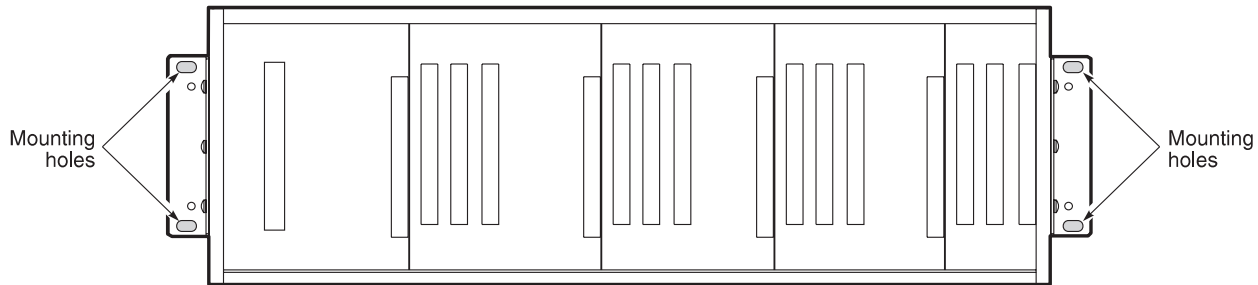

Figure 3. Mounting the FCS-719 COTS
- 1 Align the shelf (Figure 3) universal mounting brackets with the four vertical mounting holes.